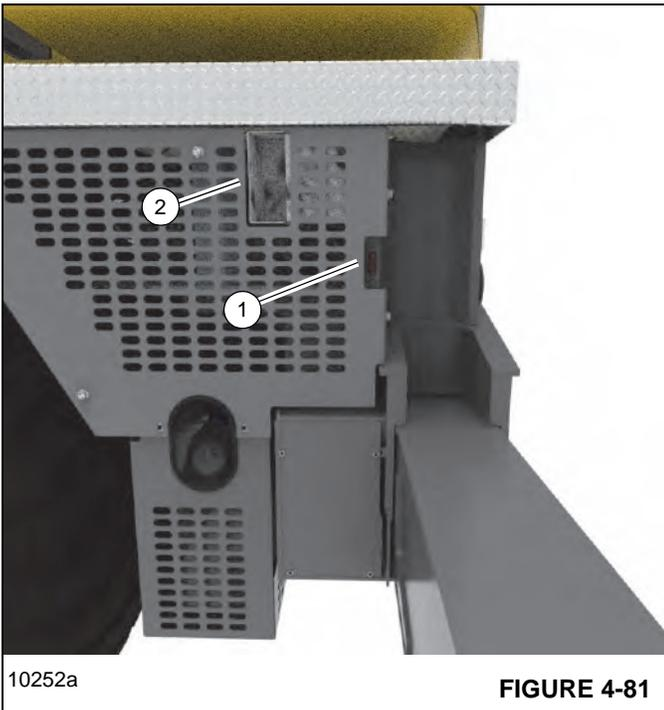

FIGURE 4-81
As a warning, the strobe light (1, Figure 4-81) near the exhaust pipe (2) will flash during exhaust system cleaning.